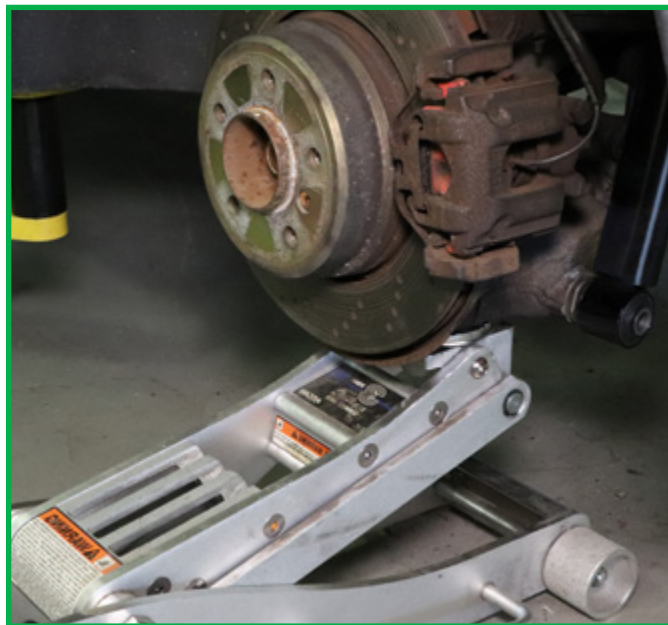

FIGURE 21
1. Support the rear axle with a hydraulic jack or stand. (Figure 21)